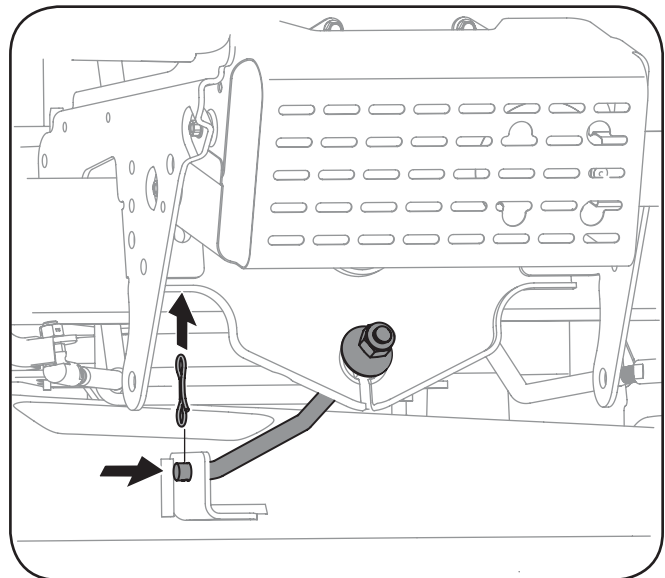

Figure 7-3
8. **On 42" decks:** Remove the bow-tie cotter pin securing the deck stabilizer rod to the deck. Slide the deck lift rod from the mounting weldment on the deck as seen in Fig. 7-3.
- On 46" Decks:** Remove the bow-tie cotter pin and flat washer securing the deck stabilizer rod to the deck. Slide the deck lift rod from the mounting weldment on the deck as seen in Fig. 7-3.